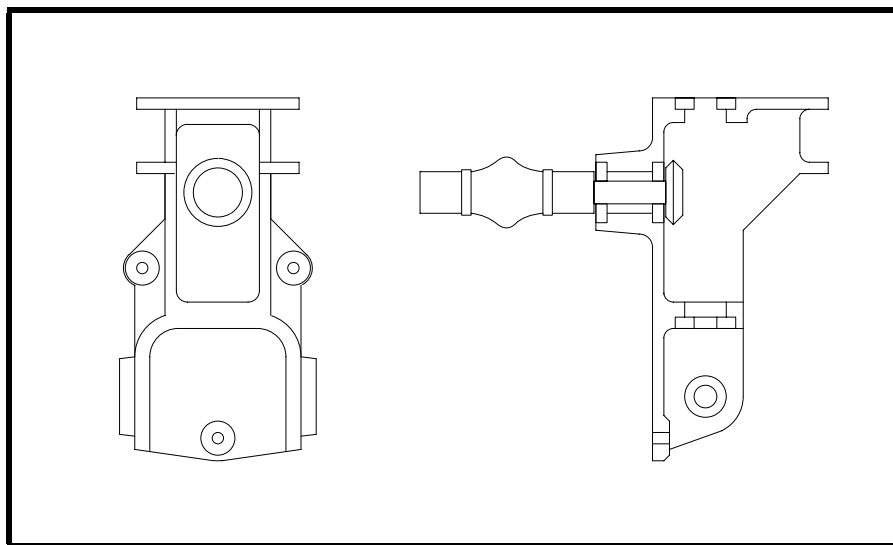

Figure 33
- ❑ Install the miter gear and shaft, P/N 520-4, in P/N 520-2 housing as shown in Figure 33. See Drawing No. 102 for all details for the assembly of this gearbox.